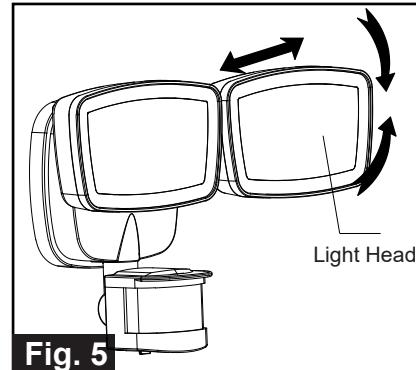

Fig. 5
1. Gently grasp the light heads and move them up or down, left or right to adjust the light coverage area. Keep the light heads at least 1" (25mm) away from the sensor.(See Fig. 5)